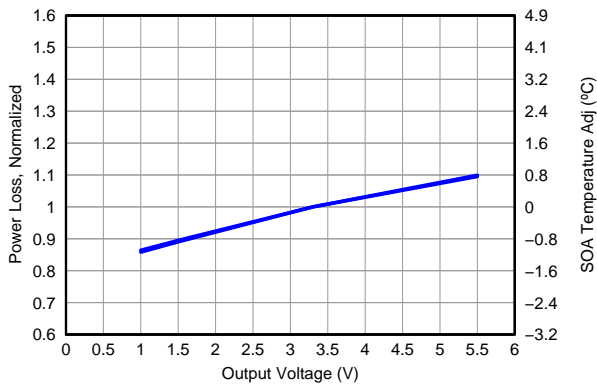

Figure 8. Normalized Power Loss vs. Output Voltage
- Normalized Power Loss for output voltage ≈ 0.9 (Figure 8)